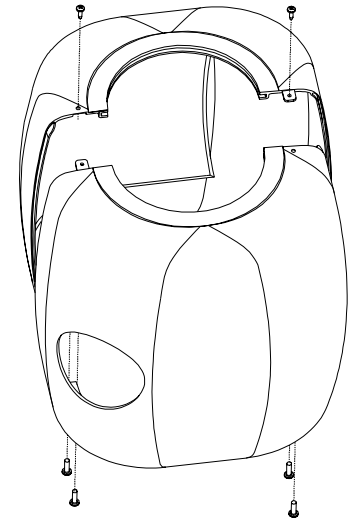

Figure 32
3. Attach the protective covers to both pod assemblies. Covers are secured with 6 screws on the bottom and 2 on the top. See Figure 32 for detail. Covers should not bind the pod at any point.